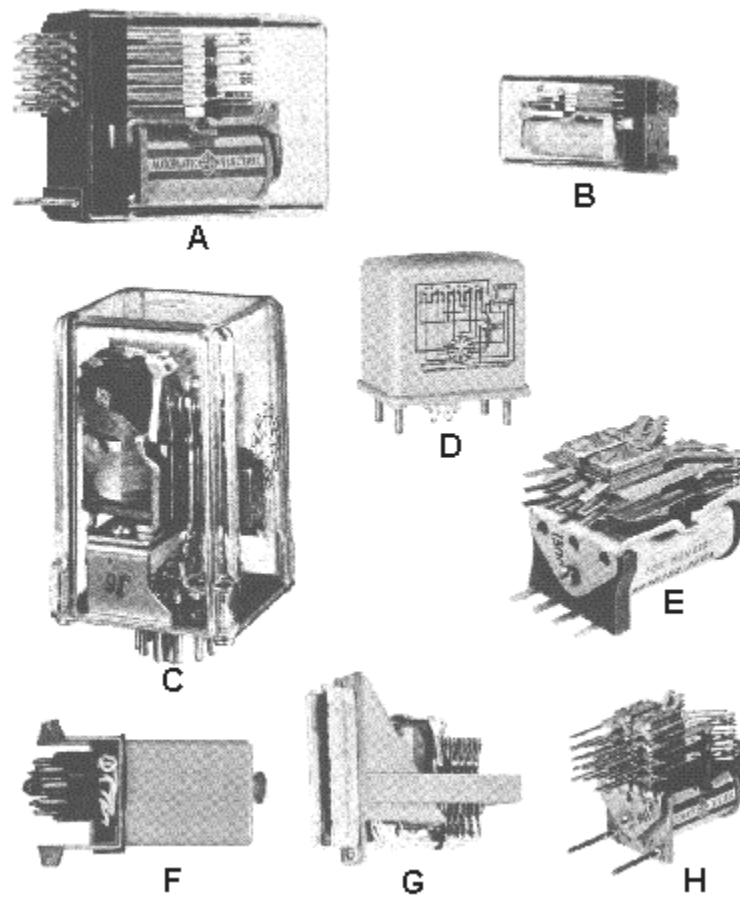

Figure 3-24.—Relay enclosures.
Relays can be described by the method of packaging; open, semisealed, and sealed. Figure 3-24 shows several different relays and illustrates these three types of packaging.
Figure 3-24 (E), (G) and (H) are open relays. The mechanical motion of the contacts can be observed and the relays are easily available for maintenance. Figure 3-24 (A), (B) and (C) are semisealed relays. The covers provide protection from dust, moisture, and other foreign material but can be removed for maintenance.
The clear plastic or glass covers provide a means of observing the operation of the relay without removal of the cover. Figure 3-24 (D) and (F) are examples of a hermetically sealed relay. These relays are protected from temperature or humidity changes as well as dust and other foreign material. Since the covers cannot be removed, the relays are also considered to be tamper-proof. With metal or other opaque covers, the operation of the relay can be "felt" by placing your finger on the cover and activating the relay.